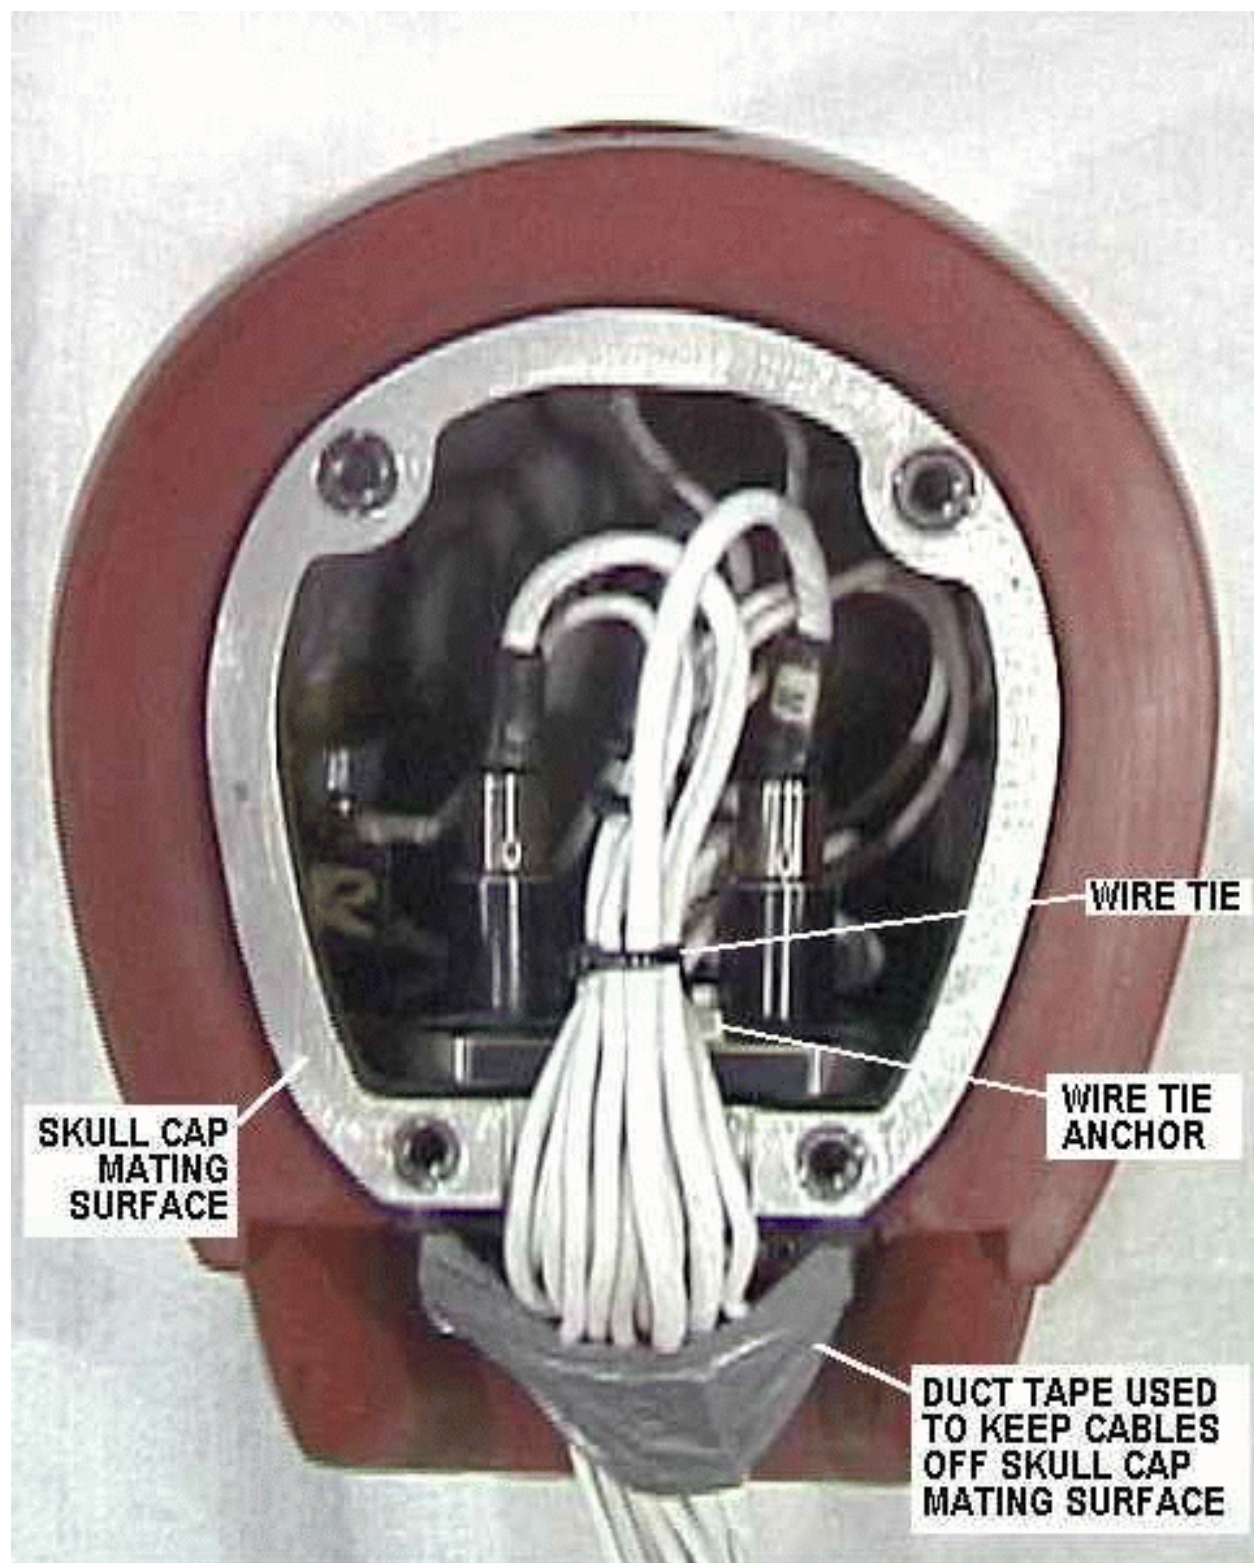

Figure 3.11 -- Cable routing
11. Install the head skin (Figure 3.11).
12. Allowing some strain relief in the head, route the cables in a flat bundle in the recess at the rear base of the head so they are not pinched when installing the skull cap. Use the wire tie anchor and wire ties as required (Figure 3.11). Duct tape can be temporally used to keep the wires off the skull cap mating surface (Figure 3.11).